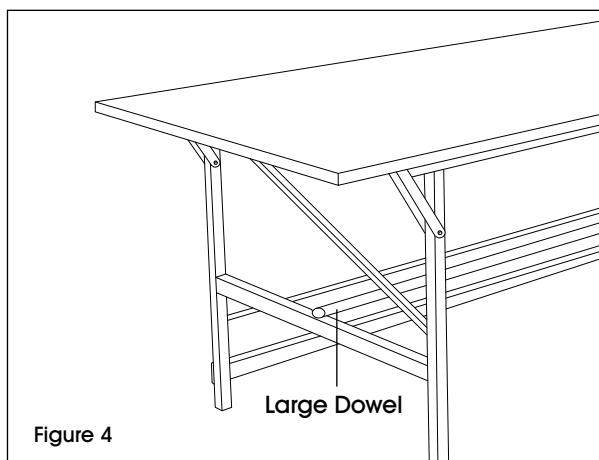

Figure 4
6. Place large dowel into dowel sockets in the middle of the table legs. (See Figure 4)